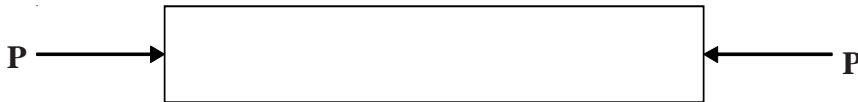

Fig.4.2
2. Compressive stress: When a body is applied with a load, which decrease the length of the body as shown in fig. 4.2, the stress developed in the body is called compressive stress. The corresponding strain is called compressive strain.